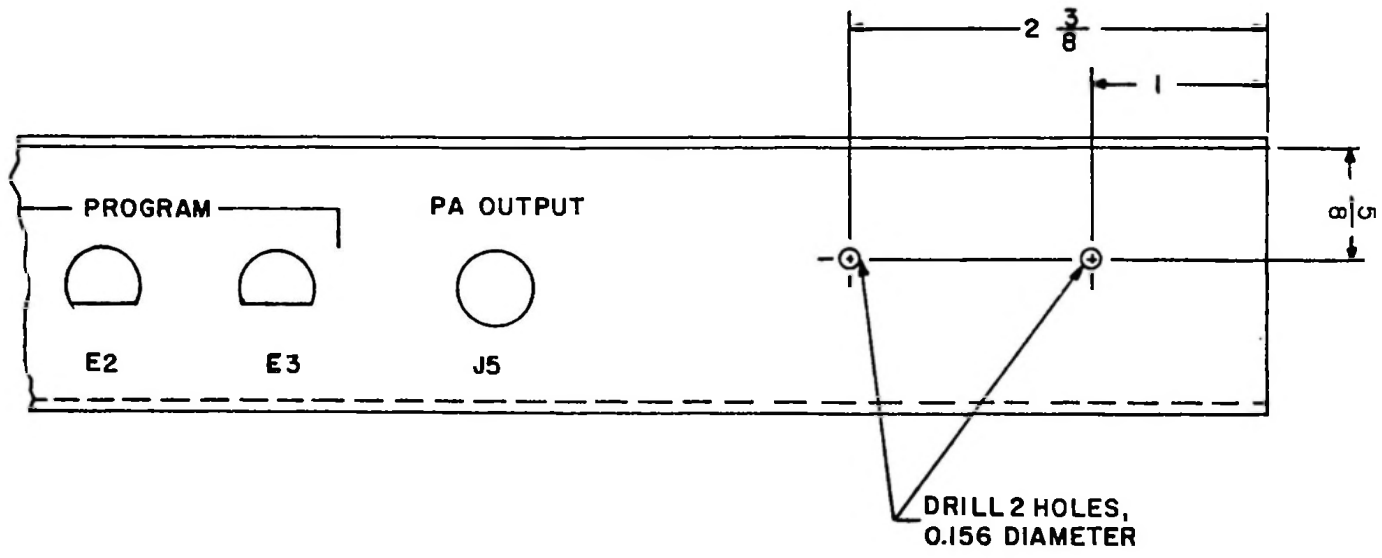

Figure 1. Partial View of Rear Panel of 808A-1 Console
4. Locate and drill 5/32-inch (0.156) holes in rear panel as shown in figure 1.